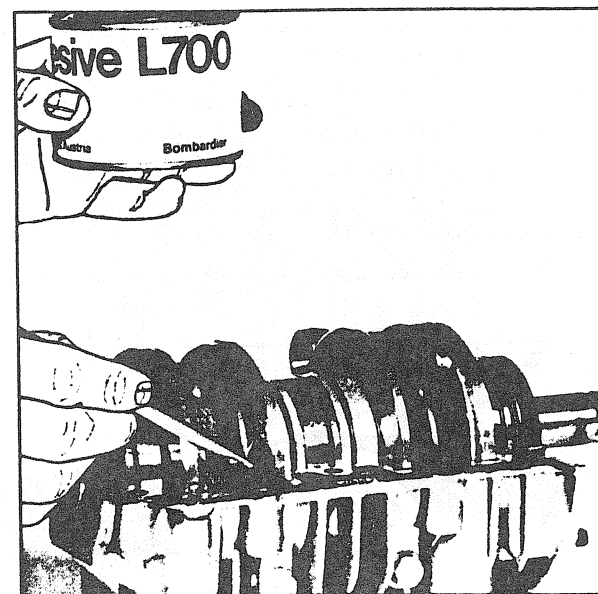

FIGURE 30
- Apply L700 adhesive on the lower crankcase edge with a brush (fig. 30).